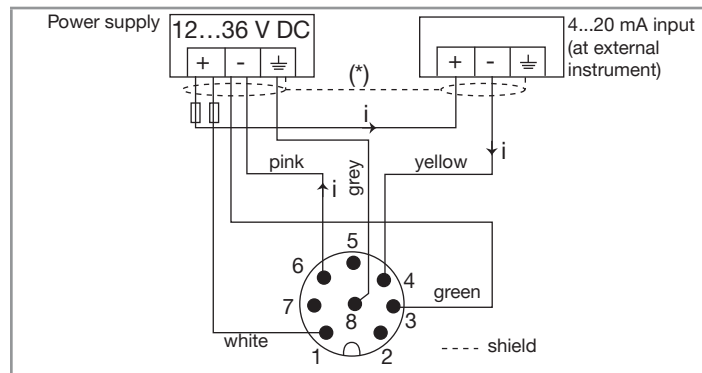
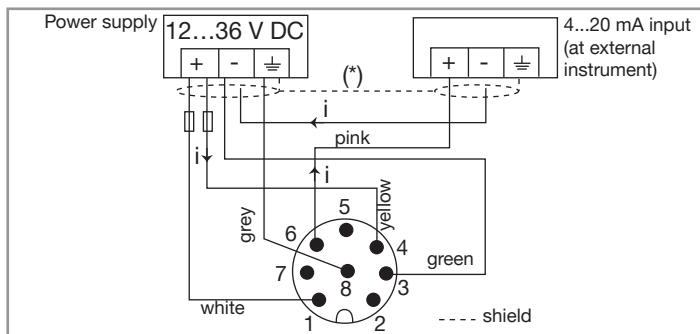

Fig. 26: Wiring of the current output, in sinking mode, of a version with an 8-pin M12 fixed connector
Fig. 27: Wiring of the current output, in sourcing mode, of a version with an 8-pin M12 fixed connector
See Fig. 26 and Fig. 27 for the related wiring charts.
(1) Use a voltage limiter depending on the load selected, e.g. for the solenoid valve, an EN 175301-803 fixed connector with integrated varistor.
(2) If the current output is needed, wire the 8-pin M12 connector acc. to Fig. 26 if the current output is wired in sinking mode, or acc. to Fig. 27 if the current output is wired in sourcing mode.